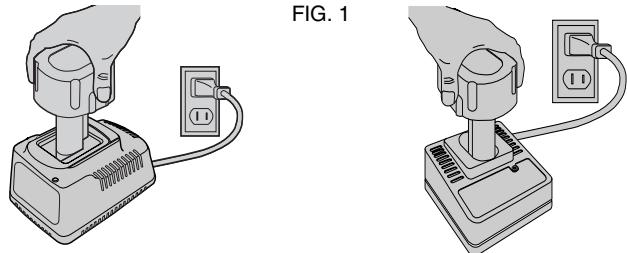

FIG. 1
1. Plug the charger into an appropriate outlet as shown in Figure 1.